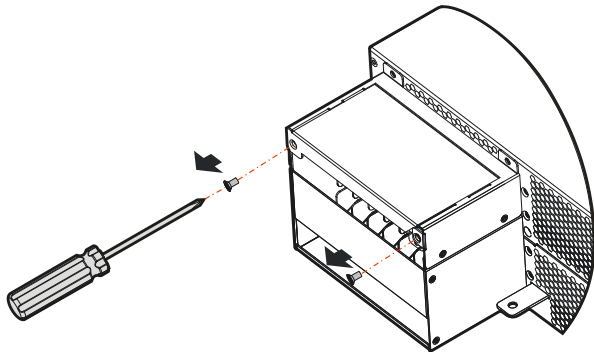

Figure3-24 Remove the screws from the protective cover
Step 1 Remove the flat-head screws from the protective cover before wiring, as shown in Figure3-24.